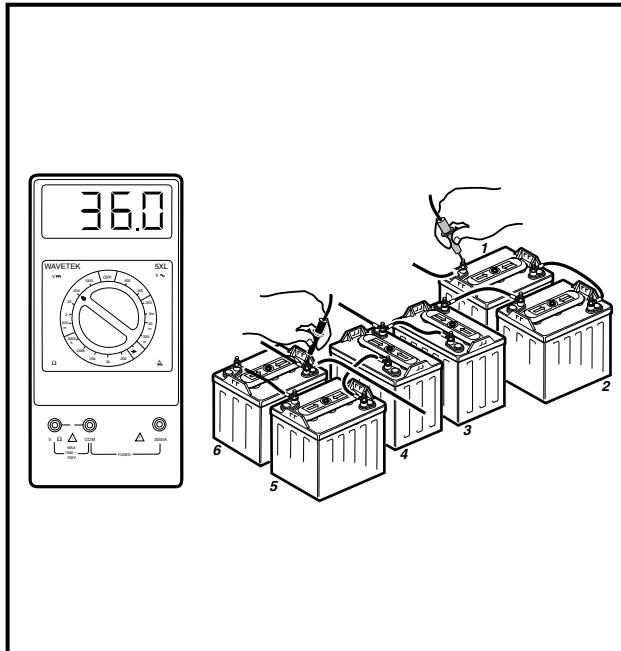

Figure 11-3 Battery Test
1. With batteries connected and using a multimeter set to 200 volts DC, place red (+) probe on the positive (+) post of battery no. 1 and the black (–) probe on the negative (–) post of battery no. 6 (**Figure 11-3, Page 11-8**). The multimeter should indicate at least 36 volts with the batteries fully charged. If not, check for loose battery connections or a battery installed in reverse polarity. The batteries are explained in detail in another section. See **Section 13 – Batteries**.